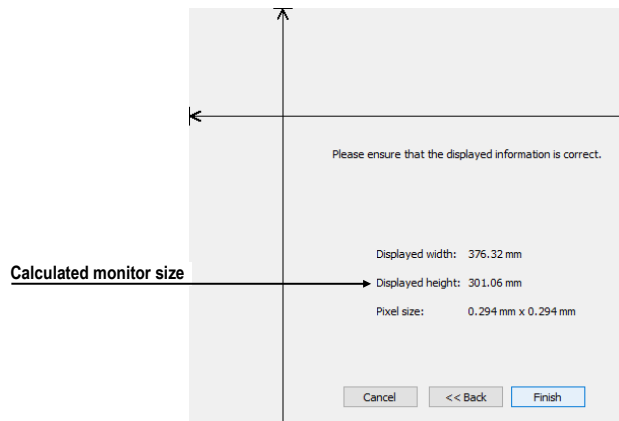

Figure 80 – Monitor calibration verification
5. Verify the calculated calibration size with the actual physical distance measurement tool (ruler) and click the **Finish** (see Figure 80).